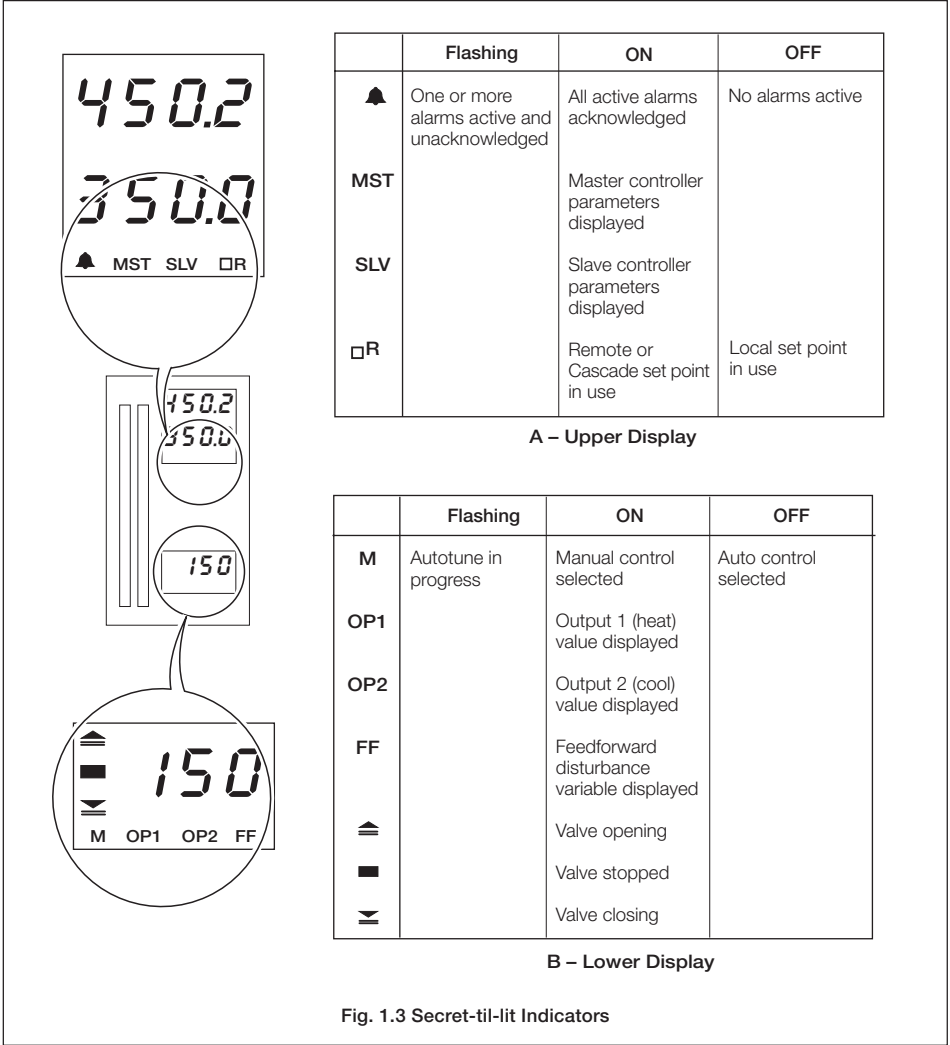

Fig. 1.3 Secret-til-lit Indicators
① When the MST indicator (see Fig 1.3) is lit, the **RD** key can be used to switch between the Master local and remote set points
② When the SLV indicator (see Fig 1.3) is lit, the **RD** key can be used to switch between the local slave set point and the cascade slave set point generated from the master output.